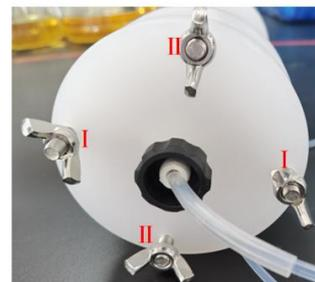

Figure 3.3 Dismantle and installation of screws and nuts
- c. Tighten the adjuster knob. See step 3 in figure 3.3.
- a. Loosen the symmetric nuts at the same time as shown in Figure 3.3.
- c. Tighten symmetrical nuts at the same time as shown in Figure 3.3.
- 2) Take out the inner rod, tighten the screw structure between inner rod and plunger. See figure 3.3.